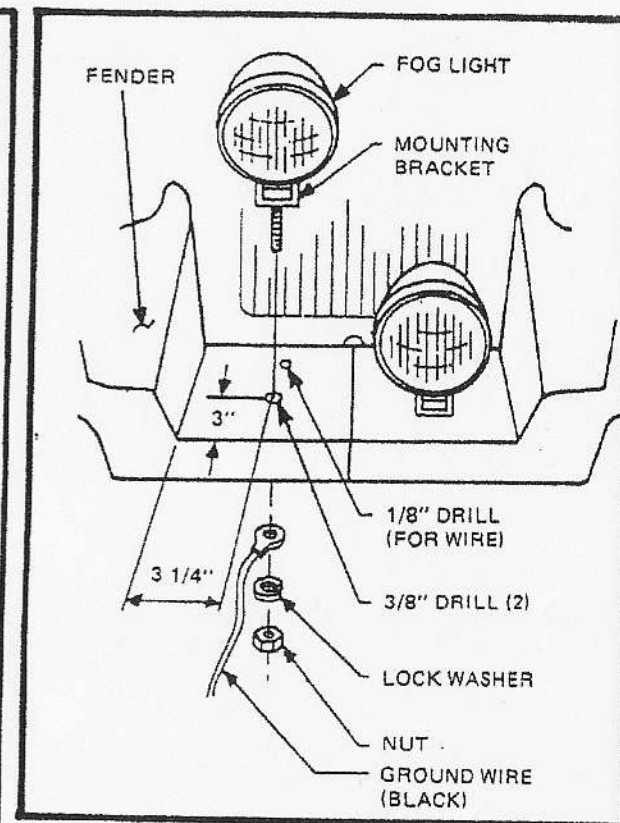

Figure 67
- ☐ Locate each fog light approximately as shown. (Figure 67) Drill a 3/8" hole at the marked location. Position fog lights in the holes. Drill a 1/8" hole directly behind the mounting bracket and push the attached wire through. Where the mounting bolt projects through the fiberglass, attach a 2 foot piece of black wire and secure the foglight in position using the hardware supplied. Run the black ground wire under the radiator shell and secure to the frame.